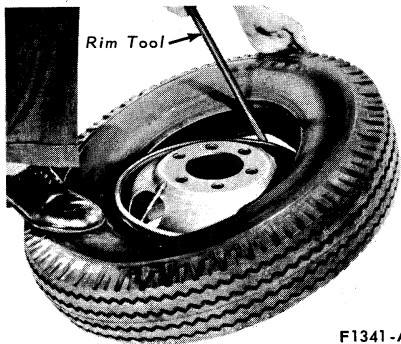

FIG. 11 Installing Tire First Bead on Wheel
2. Force the first (lower) bead of the tire down into the well of the rim just to the side of the valve (Fig. 11). Mount the first bead over the rim gutter with a rim tool, progressing from each side of the valve to a point opposite the valve.